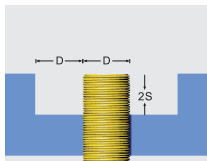

Fig2
- There should be a non-metallic area around the sensing face. The range of this area is  $D$  and  $2S$ . (Fig.2)